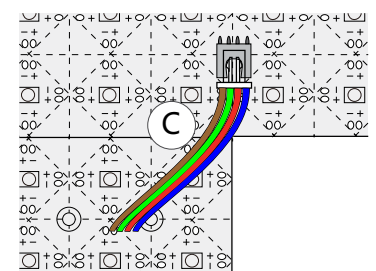

Figure 9
Another method of power is provided by welding directly to copper pads on copper sheets The input. Figure 9 shows the use of a longer wafer to wafer connector (C) The connector is cut off as a means of connecting power from the connector block of a lamp Single to another light sheet, no available. Weld the brown wire carefully Connect the positive (+) copper pad, and the green, red and blue wires connect the negative (-) copper pad.